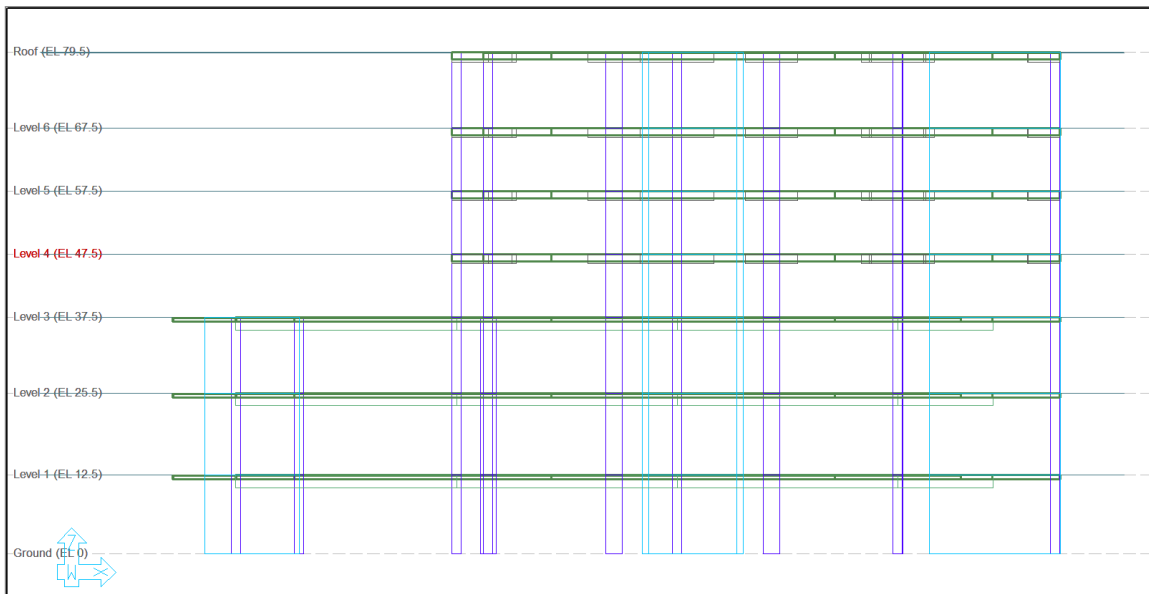

FIGURE 6-4
- Click on the **Front View**  icon in the **Bottom Quick Access** toolbar. This will bring you to the view of the model shown in **FIGURE 6-4**.